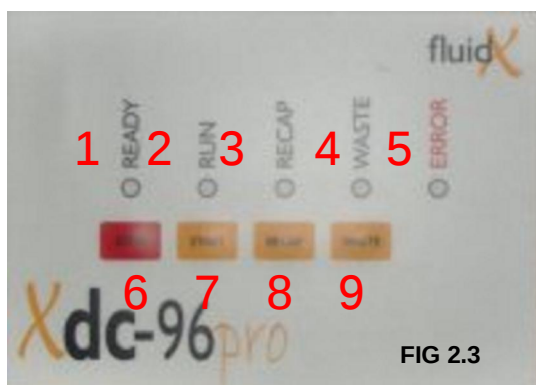

FIG 2.3
- READY LED (Fig 2.3 -1)
- RUN LED (Fig 2.3 -2)
- RECAP LED (Fig 2.3 -3)
- WASTE /disposal LED (Fig 2.3 -4)
- ERROR LED (Fig 2.3 -5)
- STOP Key (Fig 2.3 -6)
- START Key (Fig 2.3 -7)
- RECAP Key (Fig 2.3 -8)
- WASTE Key (Fig 2.3 -9)